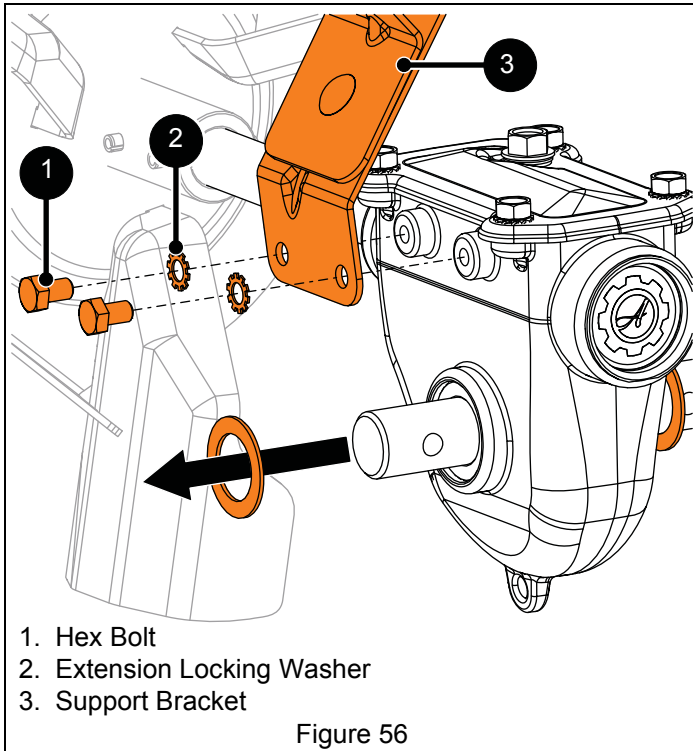

Figure 56
See Figure 56.
4. Reinstall support brackets to gearcase and secure with two extension locking washers and hex bolts. See Figure 56.